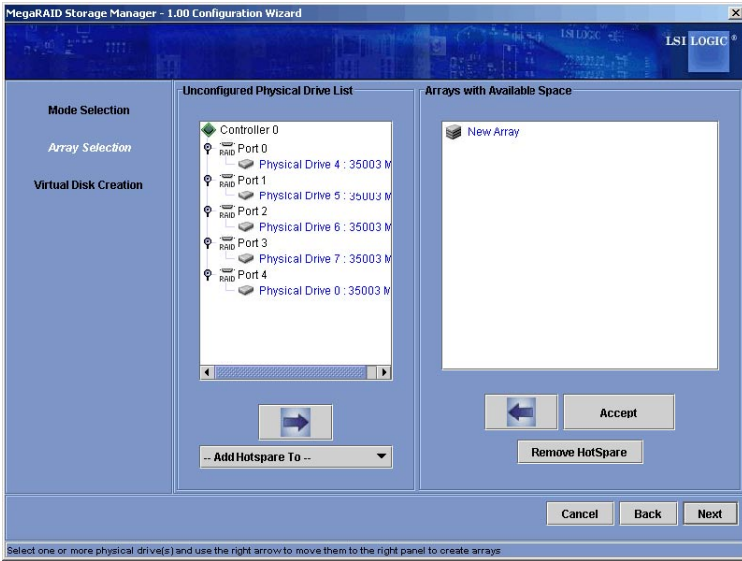

Figure 6-5: Manual Configuration - First Manual Configuration Screen
Figure 6-5 shows the first screen that appears when you select Manual Configuration.
1. In the first Manual Configuration window, shown in Figure 6-5, select two available drives in the left panel. Click the Right Arrow button to move the selected drives to the right panel.